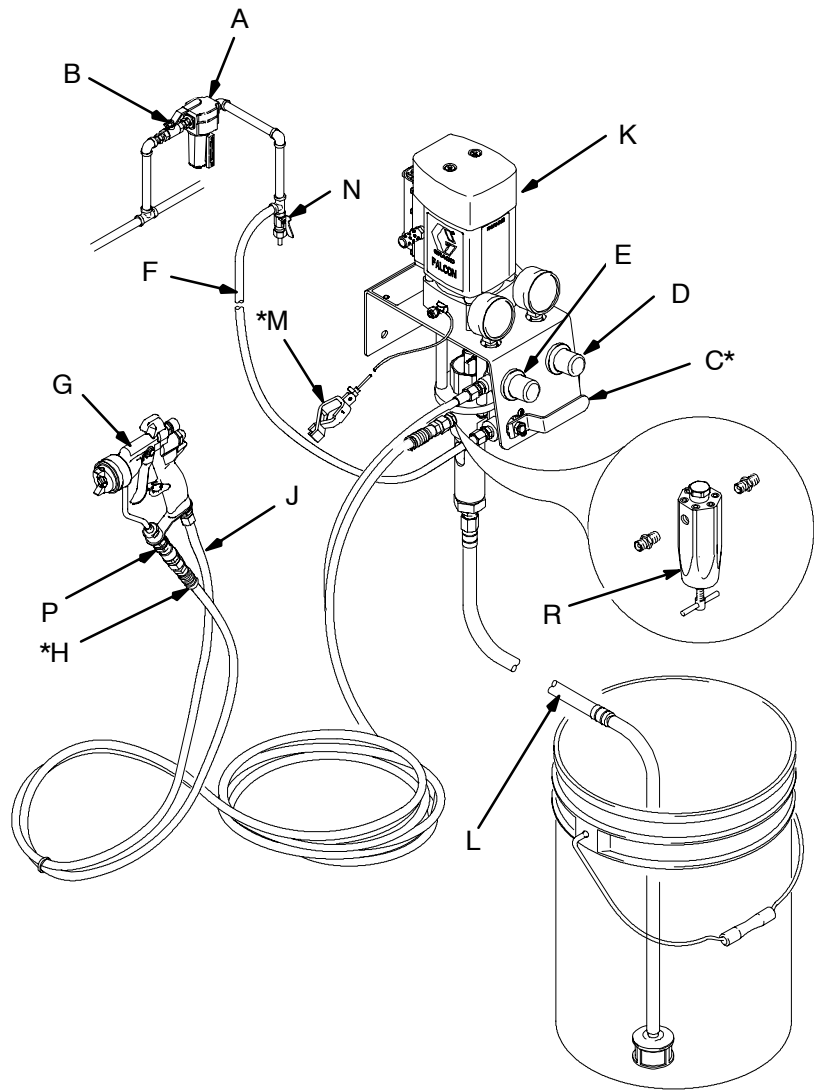

Fig. 1
The typical installation shown in Fig. 1 is only a guide for selecting and installing air-assisted spray systems. Contact your Graco distributor for assistance in designing a system to meet your needs.
- You must install an air pressure regulator (E) on the gun air line to control air pressure to the gun. See Fig. 1.
- *If your regulated air source does not have a filter, install an air filter (A) on the air line to ensure a dry, clean air supply to the gun. Dirt and moisture can ruin the appearance of your finished workpiece.*
- Install an air pressure regulator (D) on the pump air supply line to control air pressure to the pump.
- Install a bleed-type air shutoff valve (C) on the main air line and on the pump air line, to shut off air to the pump.
- If better control of fluid pressure is needed, install a fluid regulator (R) on the fluid line to level out fluid pressure to the gun. See Fig. 1.